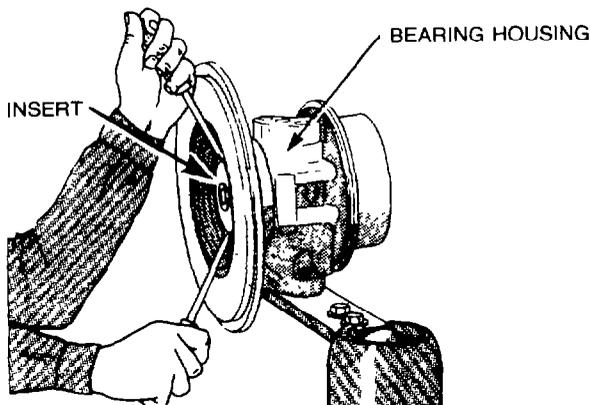

Figure 141 — Insert — Removal
- h. Using a suitable pair of circlip pliers remove the retaining ring (item 25) securing the insert (item 24) into the bearing housing (item 14), then using two screwdrivers, pry the insert from the bearing housing (see Fig. 141).